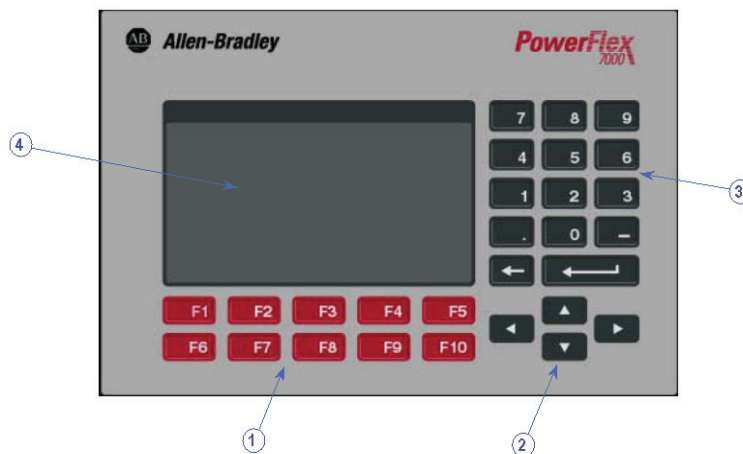

Figure 158 - PowerFlex 7000 “B” Frame Operator Interface Terminal
The PowerFlex 7000 “B” Frame medium voltage drive uses the PanelView 550 terminal as the operator interface (Figure 158 on page 174). The medium voltage drive terminal only uses the PanelView interface hardware, incorporating unique software with a modified faceplate.
The keypad of the operator interface consists of two rows of five function keys (item 1 of Figure 158) located below the operator interface display area (item 4 of Figure 158). In the lower right corner of the operator interface are the four cursor keys, indicated as ▲ or ▼ ◀ or ▶ (item 2 of Figure 158). Above the cursor keys are data entry keys consisting of the numeric values 0-9, a decimal point (.), a negative (-), a backspace key, and a data entry key (item 3 of Figure 158).